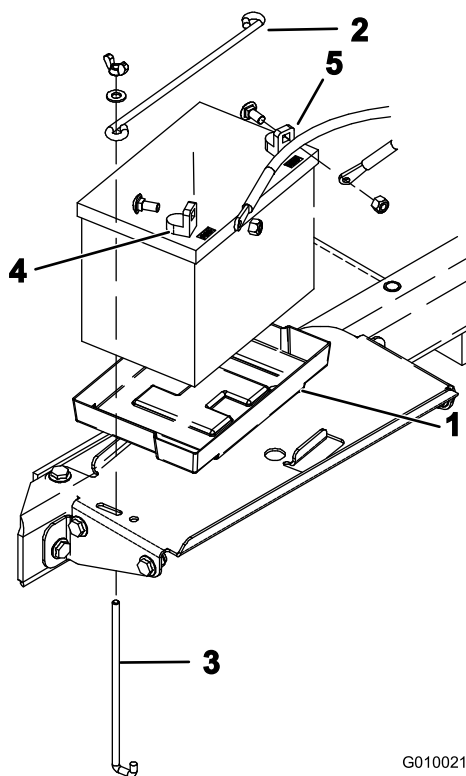

Figure 14
1. Assemble the battery into the tray in the battery compartment (Figure 14). Position the battery so that the terminals are aligned the outward.